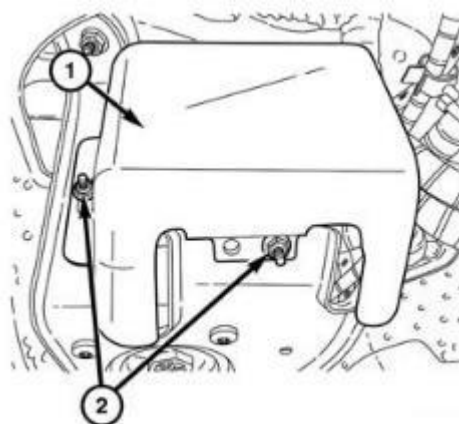

Figure 39 – Fuel Filter Shield
93. Remove the nuts (2) and the fuel filter shield (1) (Figure 39).
114. Install the fuel filter shield (1). Tighten the nuts (2) 14 N·m (10 ft. lbs.) (Figure 39).